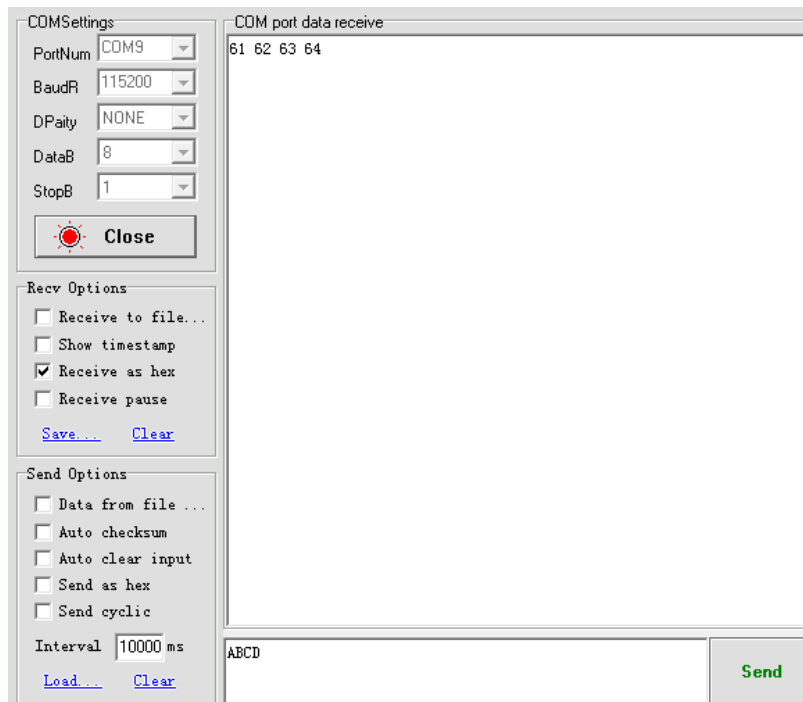

Figure 1-6 Module Data Sending and Receiving
6. The UDP Server sends a string to the UDP Client. In other words, send data from the module to the TCP/UDP Test tool (Figure 1-6).